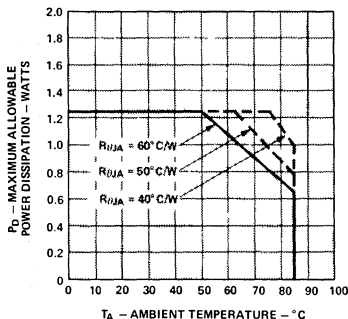

Figure 2. Maximum Allowable Power Dissipation vs. Temperature
- The device should be derated linearly above 50°C at 16.7 mW/°C. This derating is based on a device mounted in a socket having a thermal resistance from case to ambient at 35°C/W per device. See Figure 2 for power deratings based on a lower thermal resistance.
The HDSP-2000/-2001/-2002/-2003 are available in standard ceramic dual-in-line packages. They are designed for plugging into sockets or soldering into PC boards. The packages may be horizontally or vertically stacked for character arrays of any desired size. Full power operation ( $V_{CC} = 5.25V$ ,  $V_B = 2.4V$ ,  $V_{COL} = 3.5V$ ) with worst case thermal resistance from IC junction to ambient of  $60^\circ C/watt$ /device is possible up to ambient temperature of  $50^\circ C$ . For operation above  $50^\circ C$ , the maximum device dissipation should be derated linearly at  $16.7 mW/^\circ C$  (see Figure 2). With an improved thermal design, operation at higher ambient temperatures without derating is possible.